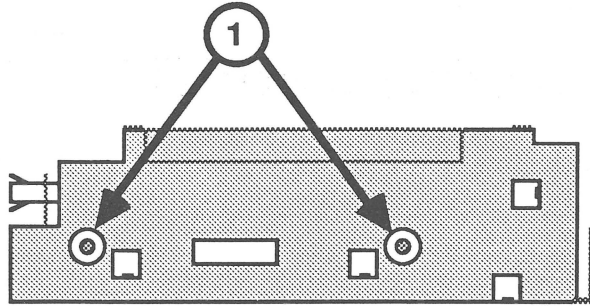

FIGURE 11
3. Replace the two screws on each side of the outer metal shield (Figure 11, #1).